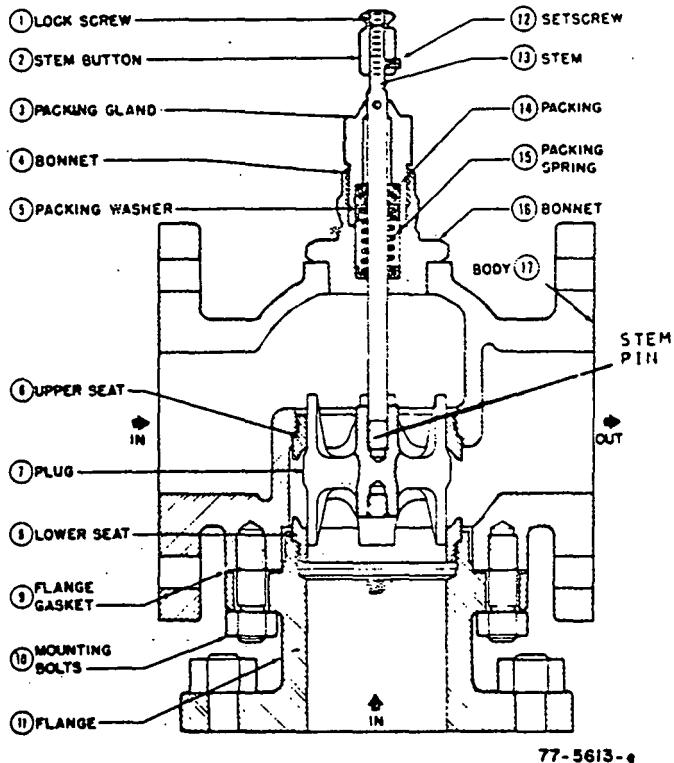

Fig. 5—Cutaway of Typical V5013A Flanged Type Body.
e. Old 3-Way Flanged Valves (V5013A) — The bonnet may be removed with the valve in line but the stem and plug assembly cannot be removed until the flange bolts are removed from both side ports and the bottom flange, and the lower seat ring is detached from valve body by removing the mounting bolts (Fig. 5).